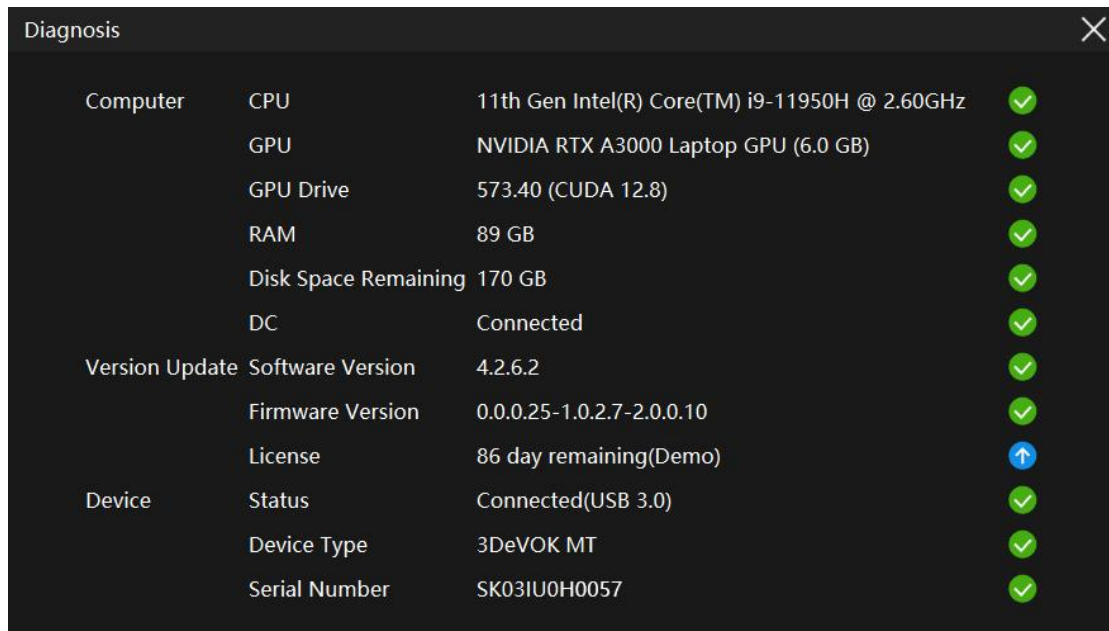

Figure 5-6 The Latest Firmware Version for V4.2.6.2
3. After the upgrade process, check the Diagnosis. For V4.2.6.2, ensure the parameters are configured as **0.0.0.25-1.0.2.7-2.0.0.10** in Firmware Version, which is shown in Figure 5-6.